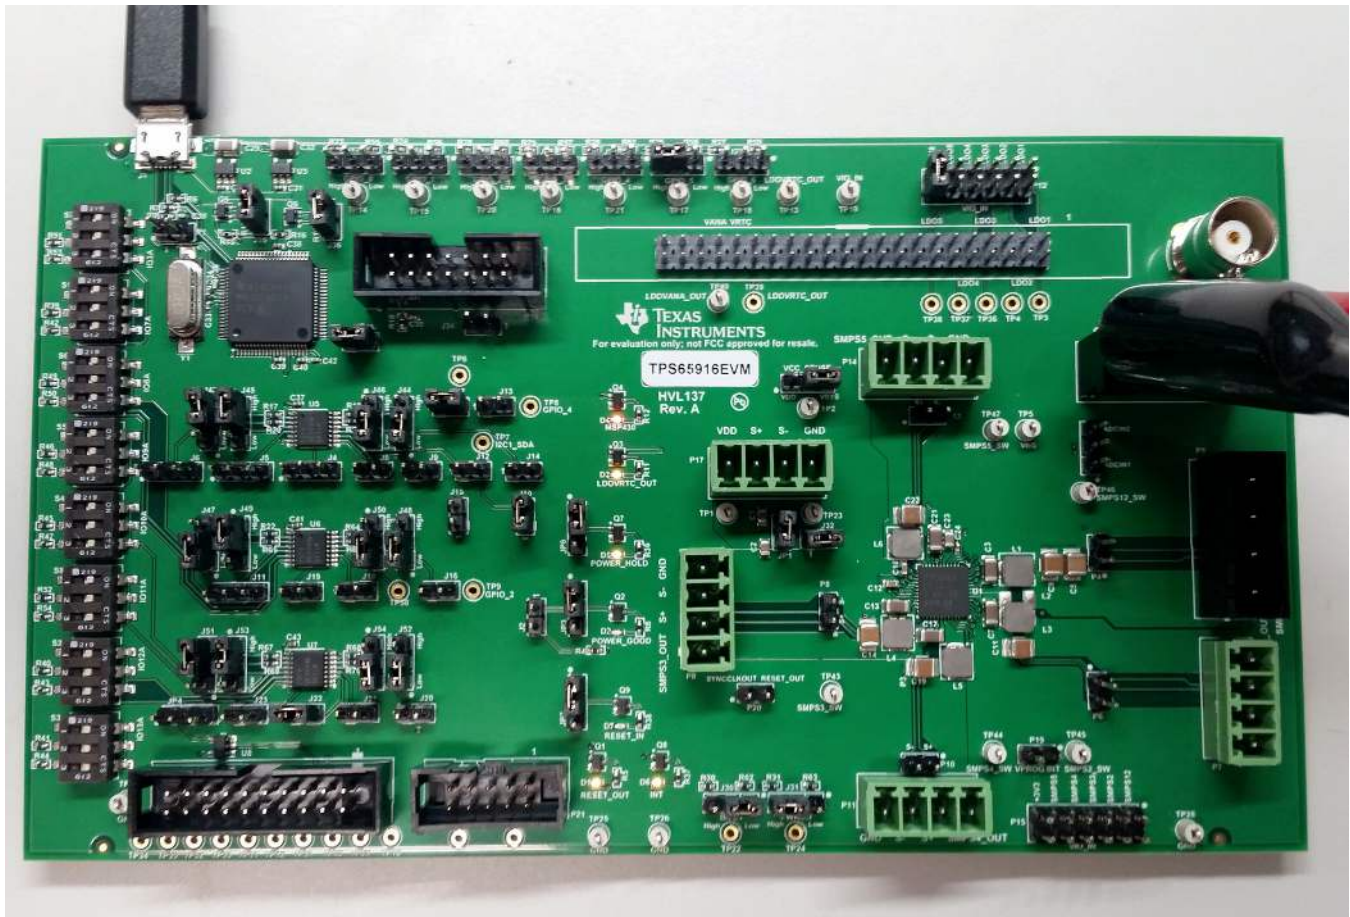

Figure 2. Powered EVM
Power for the MSP430 and the two fixed voltage LDOs (3.3-V and 1.8-V outputs) is supplied through the USB connection, as shown in Figure 2.
5. Set supply voltage to between 3.3 V and 5 V with an appropriate current limit. Turn on supply voltage. The RESET_OUT LED (D1), LDOVRTC_OUT LED (D3), POWER_HOLD LED (D5), LDOVRTC_OUT, and POWER_GOOD (D2) should light. See Figure 2.